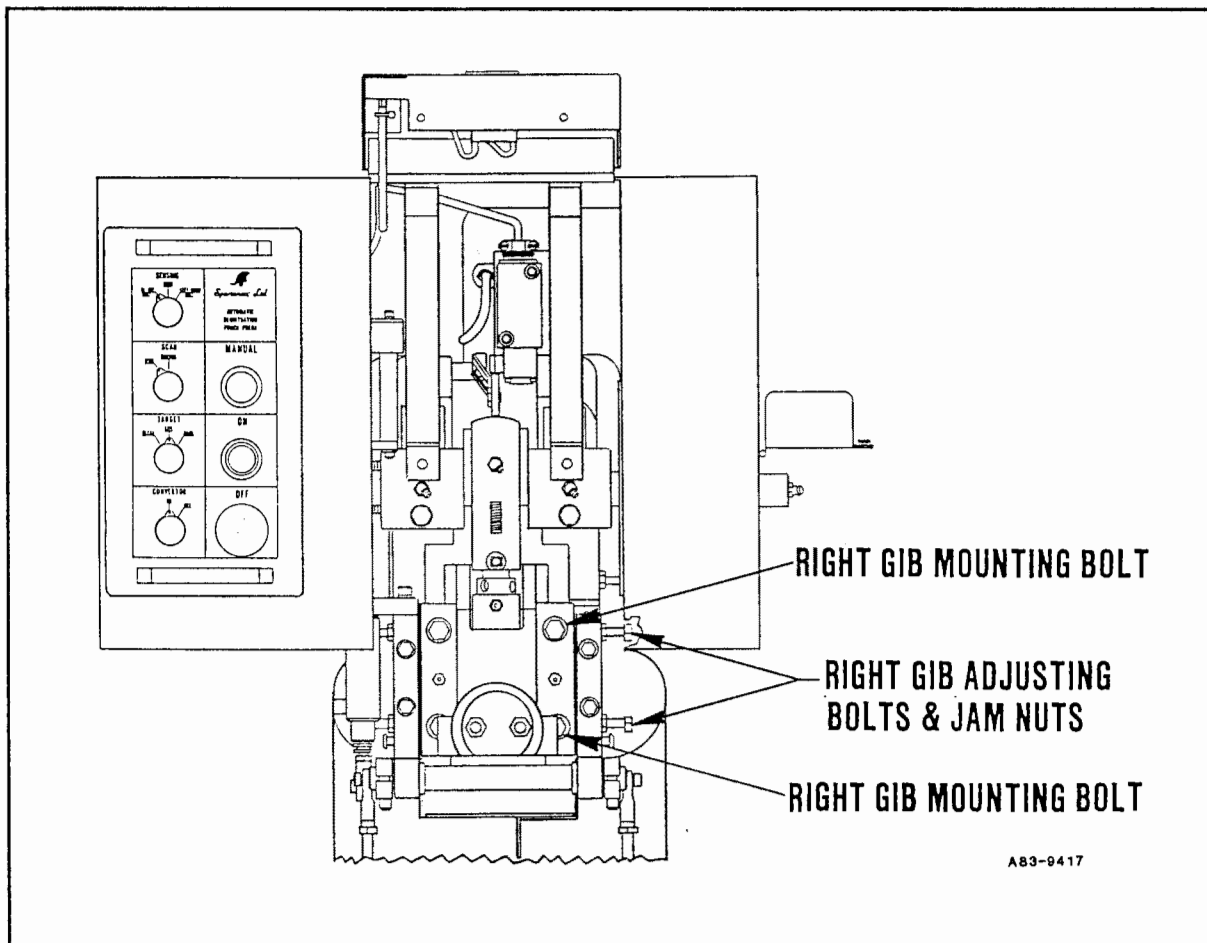

Figure 9.3 A
6. Turn ram guard fasteners (111) 1/4 turn counterclockwise (until they pop up) with screwdriver.
7. Remove ram guard (112).
8. Loosen right gib mounting bolts with 9/16" socket, socket handle and extension. See Figure 9.3 A
9. Loosen right gib jam nuts with 9/16" open-end wrench. See Figure 9.3 A.
10. Turn right gib adjustment bolts clockwise or counterclockwise to increase or decrease the amount of force needed to turn the crankshaft. See Figure 9.3 A.